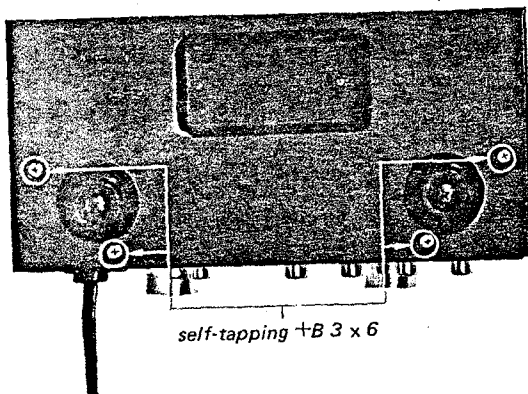

Fig. 2-6 Rear panel removal
4. Remove the four self-tapping screws (+B 3 X 6) from the bottom edge of the chassis as shown in Fig. 2-6. This frees the rear panel.